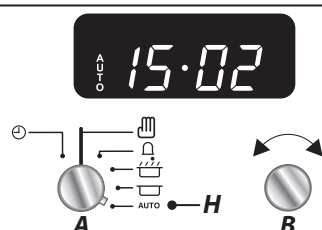

Fig. 3.13
6. When the program starts the oven, the cooking symbol will appear on the display. Once the specified time has elapsed it will emit an alarm and the Multifunction Oven will stop working. The 'Cooking' symbol on the display will disappear and the word '**AUTO**' will flash (**Fig. 3.13**).